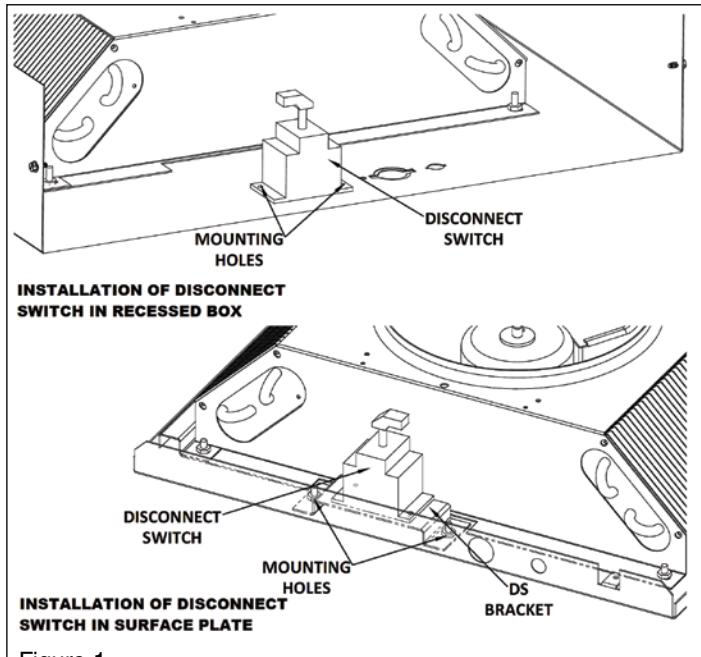

Figure 1
1. Install disconnect switch in the surface mounting plate or recess box as shown in the heater installation instructions and Figure 1 with the terminals marked L1, L2 and L3 toward the knockout. Disconnect switch should be mounted on opposite side of the heater from the contactor. See Figure 1.
1. Install disconnect switch in the recess box as shown in the heater installation instructions Figure 1 with the terminals marked L1, L2, and L3 toward the knockout. Disconnect switch should be mounted on opposite side of the heater from the contactor. See Figure 1.